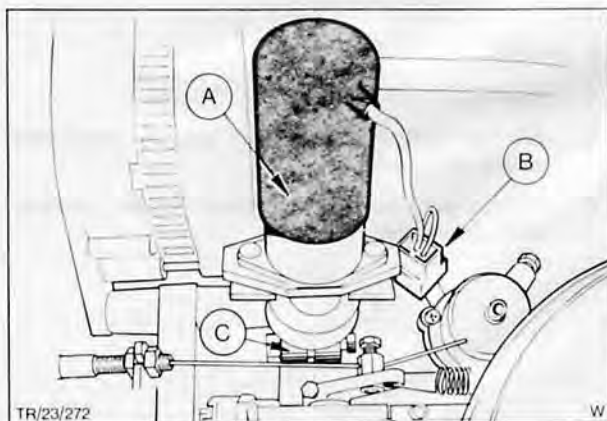

Fig. 47A. Excess fuel operating solenoid
3. Loosen adjusting clamp, 'C' in Fig. 47A, remove two screws, disconnect loom and detach solenoid.